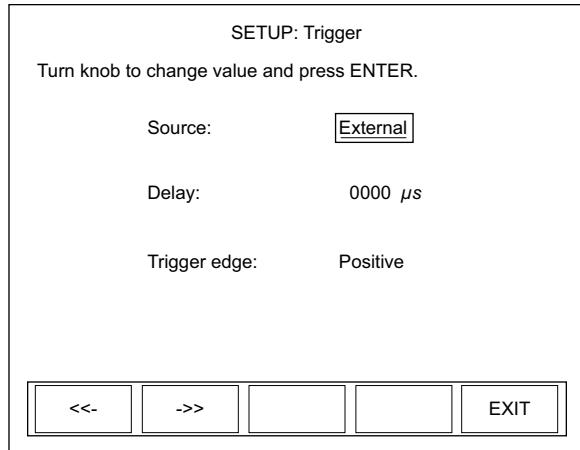

Figure 4-52. SETUP: Trigger (Changing the Values)
2. Press the ENTER/SET button to display the SETUP: Trigger screen (Figure 4-52).
4. If you select Internal as the source, press the EXIT soft key to save the value, exit Trigger mode, and return to the main SETUP screen; there are no other option selections available. Selecting External as the source value (as shown in Figure 4-52) will display editable fields next to Delay and Trigger Edge. Continue to step 5.